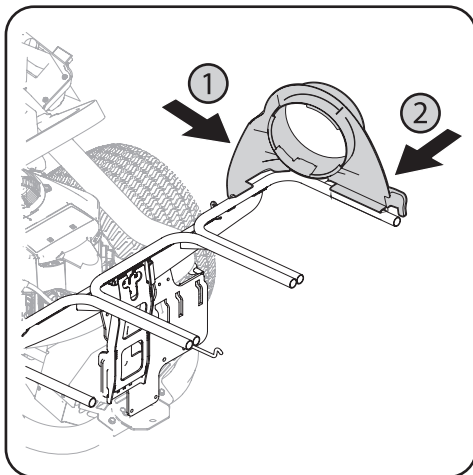

Figure 4-8
1. Snap the plastic upper chute support and chute deflector in place by first clipping the side portion onto the bagger support rail (1) as shown in Figure 4-8.
2. Snap the front side of the chute support to the rail (2), as shown in Figure 4-8.